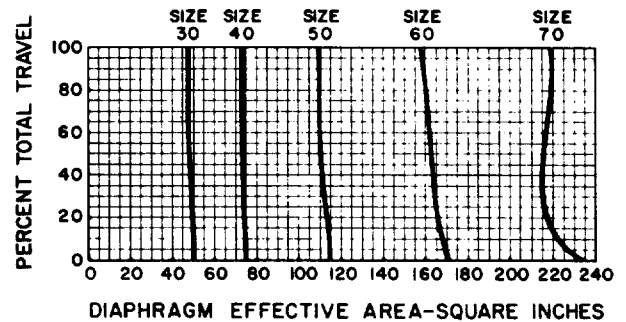

Figure 1-2. Diaphragm effective area curves for Type 657 actuators. Dwg. CF3448
**Diaphragm**—Diaphragm is molded Buna N with a nylon fabric insert. Buna N is used because of its excellent all around properties for this purpose, including high resistance to solvents and chemicals and good flexibility even at low temperatures. The molded diaphragm not only makes the actuator easy to assemble but also provides linearity between the operating pressure and travel, and gives a maximum effective area for a given case diameter. Molded diaphragms in combination with the deep diaphragm case provide a remarkably constant effective area throughout the valve travel. See Figure 1-2. Advantages of a virtually constant effective area include simplified spring selection, improved linearity between pressure and travel, a constant air pressure span for different "start to move" pressures, and a greater thrust producing ability for a given size diaphragm.